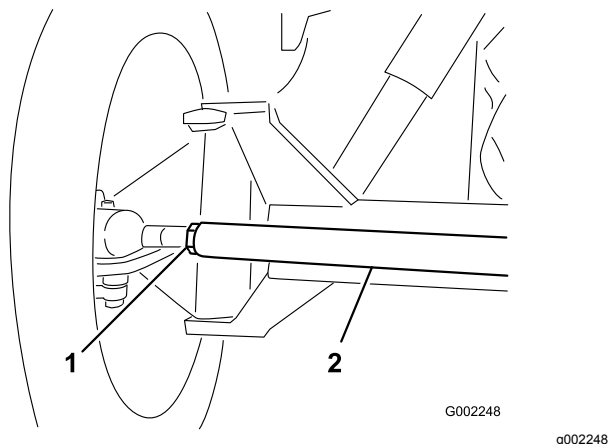

Figure 70
3. If the measurement does not fall within the specified range, loosen the jam nuts at both ends of the tie rod (Figure 70).